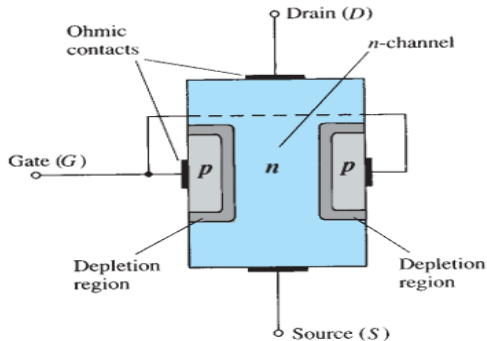

Figure 2: Junction FET
- The basic construction of the n-channel JFET is shown in Fig. 2.
- The top of the n-type channel is connected through an ohmic contact to a terminal referred to as the drain (D), whereas the lower end of the same material is connected through an ohmic contact to a terminal referred to as the source (S).
- The two p -type materials are connected together and to the gate (G) terminal.
- The result is a depletion region at each junction, as shown in Fig. 2, that resembles the same region of a diode under no-bias conditions. A depletion region is void of free carriers and is therefore unable to support conduction.
- The result is a gate and a source terminal at the same potential and a depletion region in the low end of each p-material similar to the distribution of the no-bias conditions of Fig. 2.